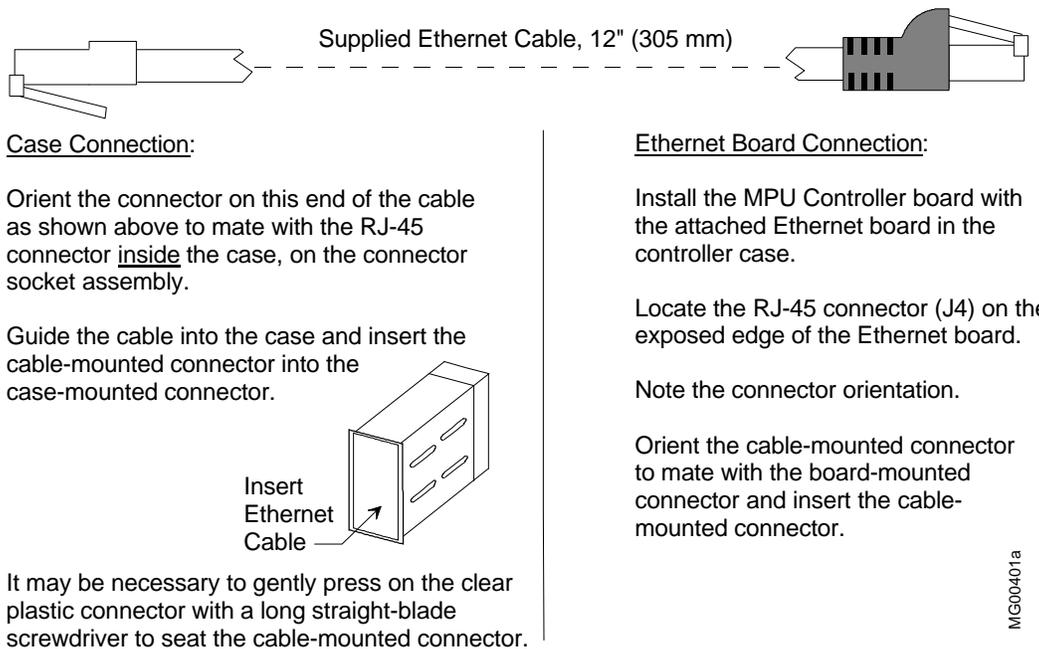

FIGURE 11-10 Ethernet Cable Installation
Figure 11-10 shows the Ethernet cable.
2. Referring to Figure 11-10, perform the steps under Case Connection to install the cable in the case.
4. In Figure 11-10, refer to the steps under Ethernet Board Connection to mate the free end of the Ethernet cable with connector J4 on the Ethernet board. Dress the cable so that it will not interfere with the Display Assembly.